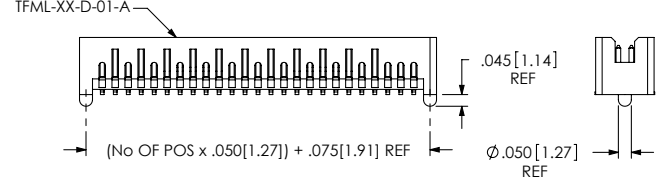

FIG. 8
-SA: STAKED ALIGNMENT PIN (USE SM-A5) (SEE FIG. 8, SHT 3)